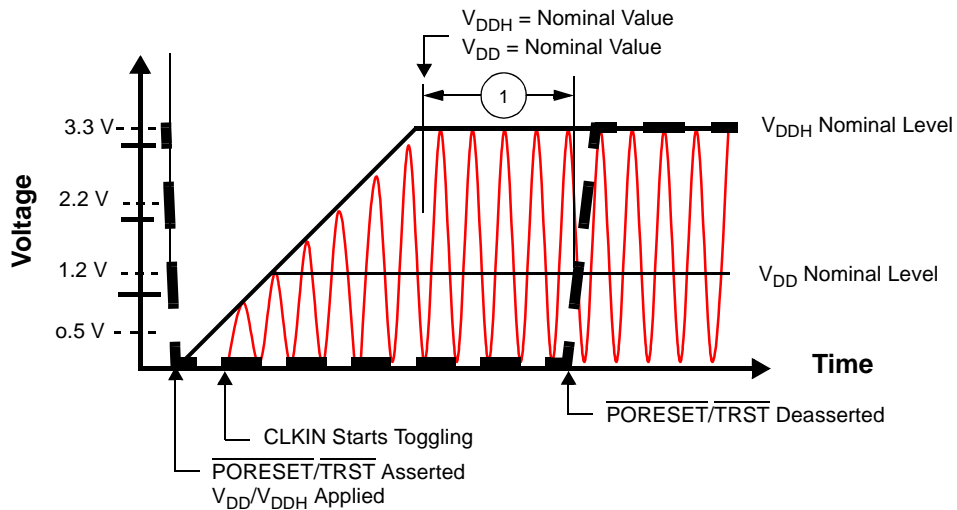
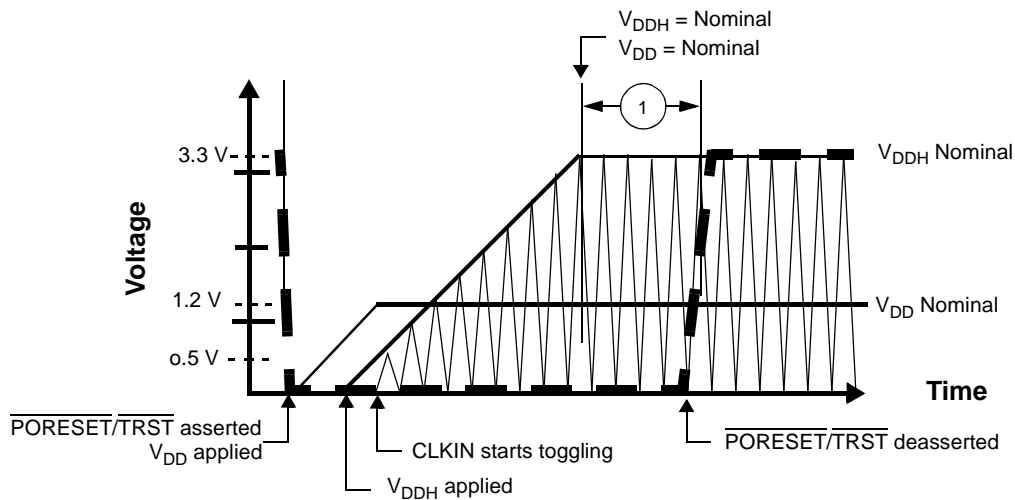

Figure 6. Start-Up Sequence: V_{DD} and V_{DDH} Raised Together
Figure 7. Start-Up Sequence: V_{DD} Raised Before V_{DDH} with $CLKIN$ Started with V_{DDH}
- If possible, bring up the V_{DD} and V_{DDH} levels together. For designs with separate power supplies, bring up the V_{DD} levels and then the V_{DDH} levels (see **Figure 7**).
- CLKIN should start toggling at least 16 cycles (starting after V_{DDH} reaches its nominal level) before $\overline{PORESET}$ deassertion to guarantee correct device operation (see **Figure 6** and **Figure 7**).
The following figures show acceptable start-up sequence examples. **Figure 6** shows a sequence in which V_{DD} and V_{DDH} are raised together. **Figure 7** shows a sequence in which V_{DDH} is raised after V_{DD} and CLKIN begins to toggle as V_{DDH} rises.